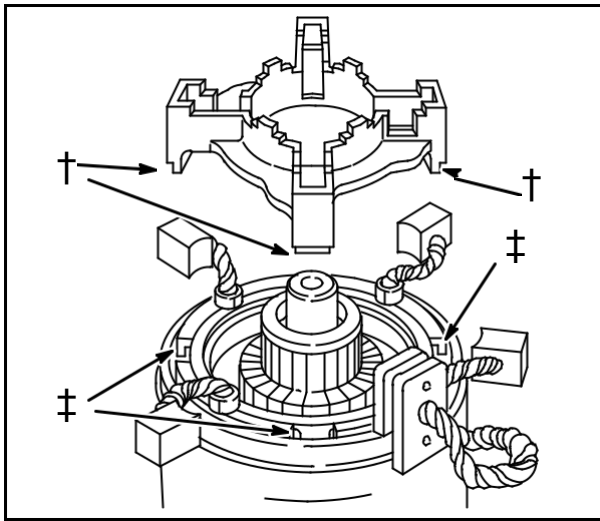

Fig. 44
3. Install brush holder, inserting tabs on brush holder (6) into starter housing slots (7), **Fig. 44**.